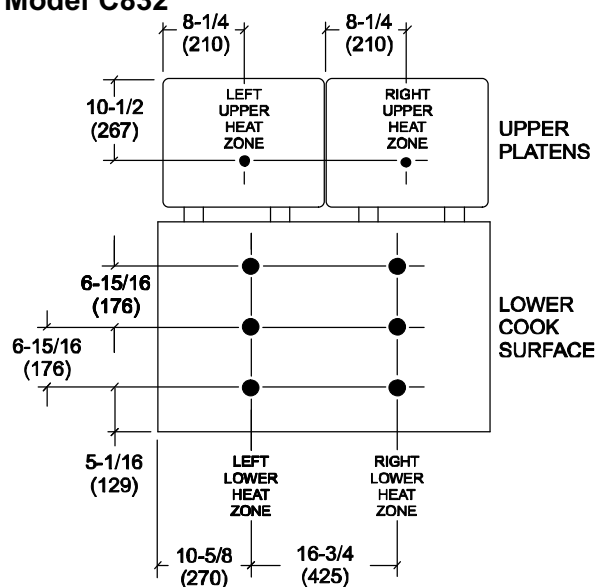

Figure 35
See Figures 35 and 36 below, which identify the probe locations.
3. Place a pyrometer surface probe on the selected heat zone as shown in Figures 35 and 36.